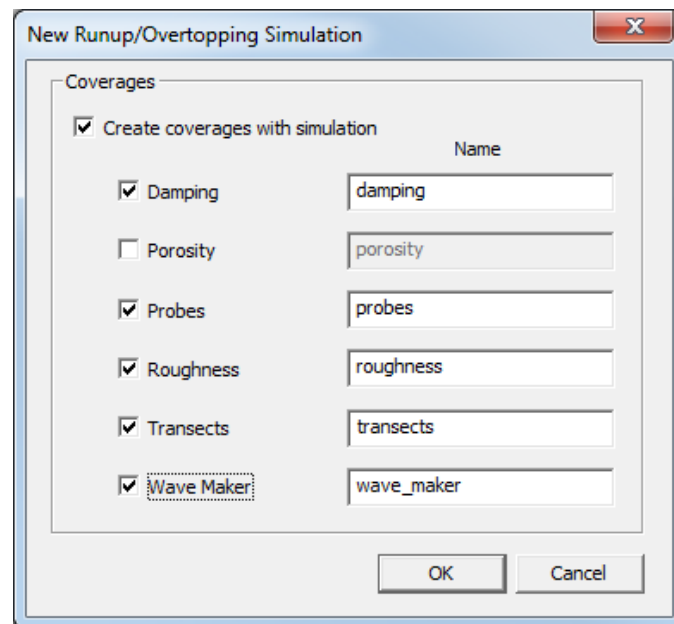

Figure 3 New Runup/Overtopping Simulation dialog
1. Right-click in a blank spot in the Project Explorer and select *New Simulation | Bouss Runup/Overtopping* to bring up the *New Runup/Overtopping Simulation* dialog (Figure 3).
3. Turn on all options except *Porosity* (see Figure 3) and leave the default name for each option.